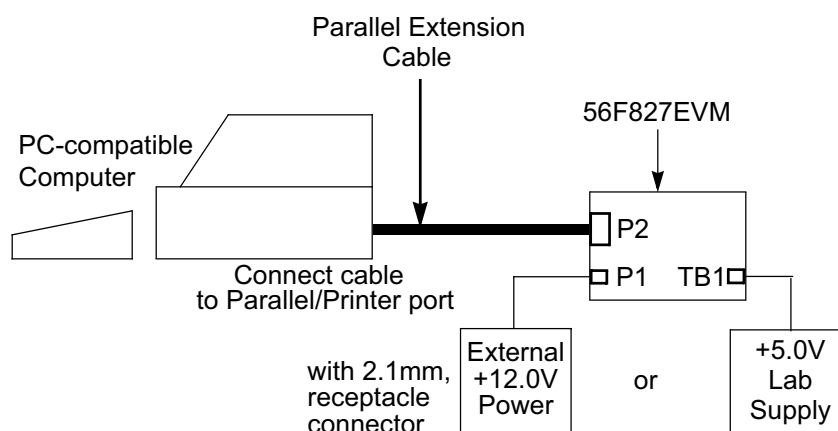

Figure 1-3. Connecting the 56F827EVM Cables
An interconnection diagram is shown in Figure 1-3 for connecting the PC and the external +12.0V DC power supply or external +5.0V DC lab power supply to the 56F827EVM board.
2. Connect the other end of the parallel extension cable to P2, shown in Figure 1-3, on the 56F827EVM board. This provides the connection which allows the host computer to control the board.
4. Connect the 2.1mm output power plug from the external switching power supply into P1, shown in Figure 1-3, on the 56F827EVM board. Optionally, attach an external +5.0V DC lab power supply via the 2-pin terminal block, TB1.